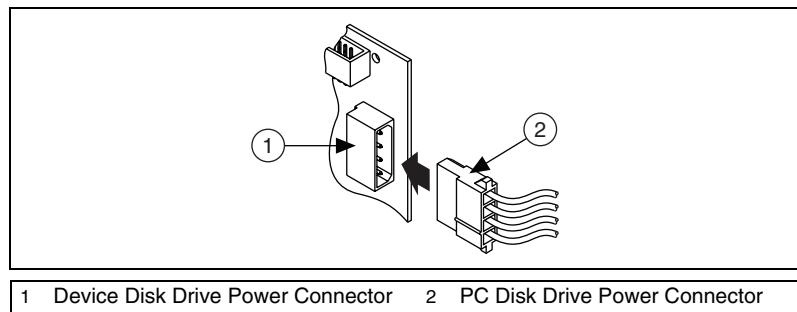

Figure 3-4. Connecting to the Disk Drive Power Connector
3. Attach the PC disk drive power connector to the disk drive power connector on the device, as shown in Figure 3-4.